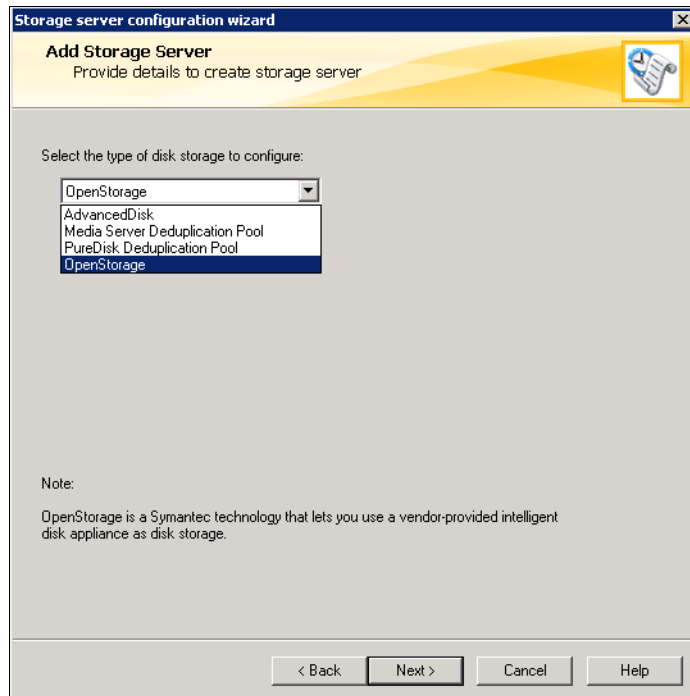

Figure 9-18 Storage type selection window
3. For the Storage Type definition, select **OpenStorage** (Figure 9-18) and click **Next**.